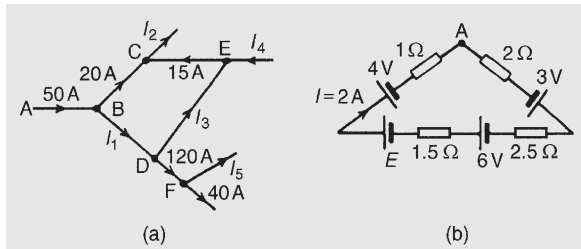

Figure 13.3
**Problem 1.** (a) Find the unknown currents marked in Fig. 13.3(a). (b) Determine the value of e.m.f.  $E$  in Fig. 13.3(b).
(i.e. in the opposite direction to that shown in Fig. 13.3(a))
- (b) Applying Kirchhoff's voltage law and moving clockwise around the loop of Fig. 13.3(b), starting at point A: